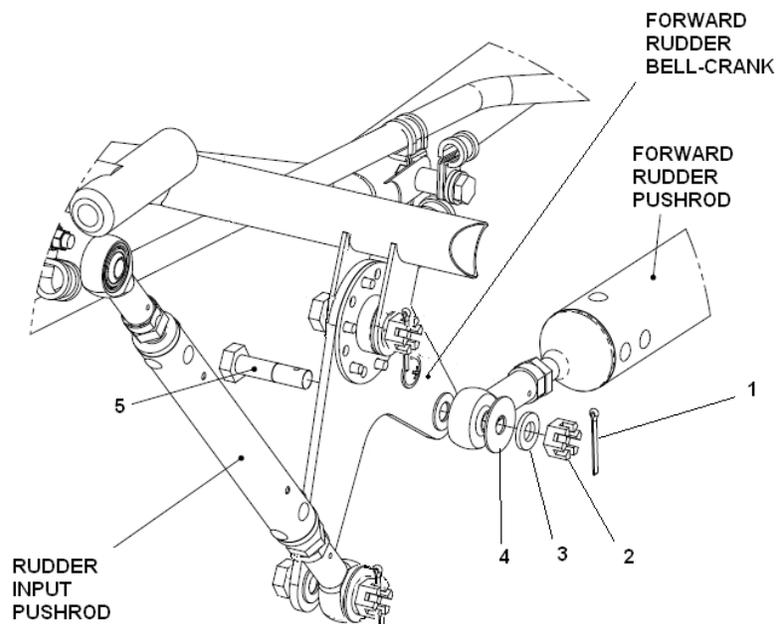

Figure 27-32 Forward Rudder Bell-crank to Forward Rudder Pushrod Connection
2. See Figure 27-32. Remove split pin (1) and discard. Remove the nut (2), washer (3), spacer (4), and bolt (5). Separate the forward rudder pushrod from forward rudder bell-crank.